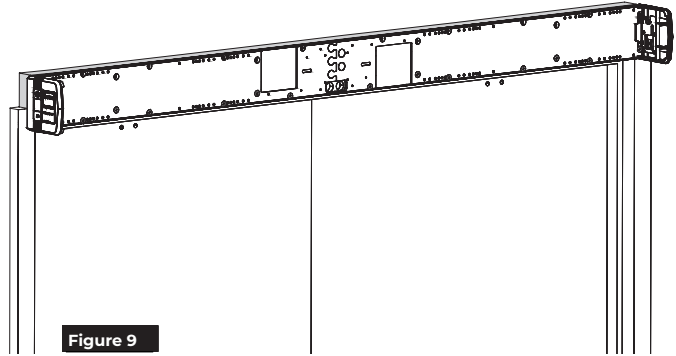

Figure 9
1. Secure end caps to each end of connected backplates using four (4) (two each) #8-32 x 5/16" Phillips pan head screws. (Figure 9)